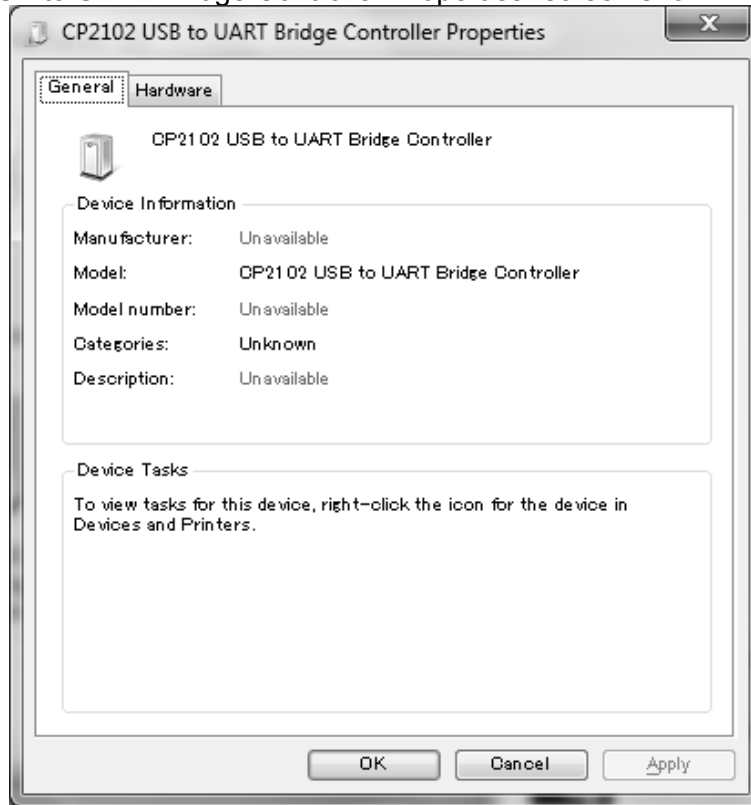

Fig. 59 Controller Properties
(9) The "CP2102 USB to UART Bridge Controller Properties" screen shown in Fig.59 appears.